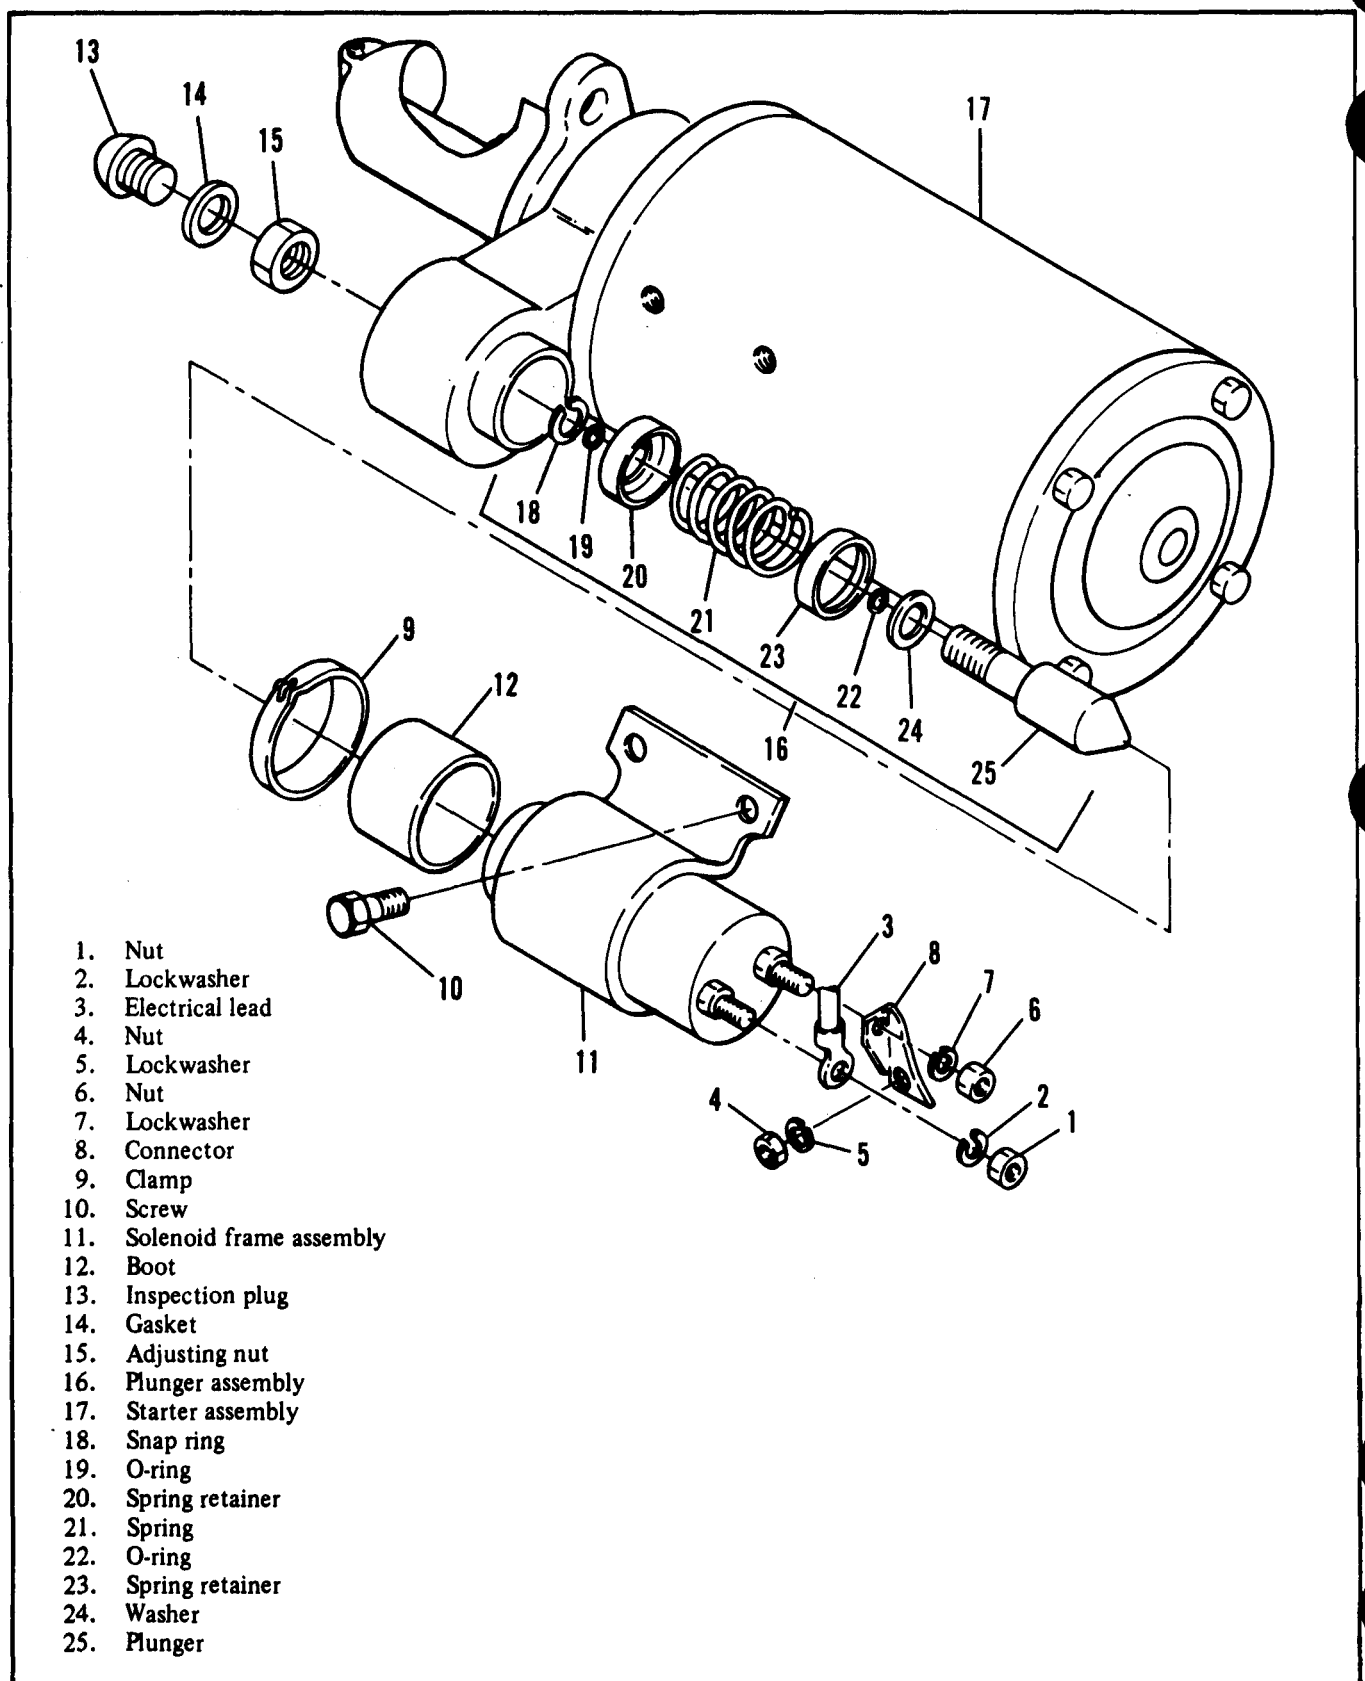

Figure 3-12A. Starter Solenoid Replacement (Effective with serial no. RZ70001)
- (a) Remove nut (1, figure 3-12A) and lockwasher (2) to disconnect electrical lead (3).
- (b) Remove nut (4), lockwasher (5), nut (6), lockwasher (7) and connector (8).
- (c) Loosen clamp (9) and remove screws (10) to remove solenoid assembly (11). Remove boot (12).
- (d) Remove inspection plug (13) and gasket (14).
- (e) Remove adjusting nut (15) and remove plunger assembly (16) from starter assembly (17).
- (f) Remove snap ring (18), o-ring (19), spring retainer (20), spring (21), o-ring (22), spring retainer (23), and washer (24) from plunger (25).
Maintain proper polarity when connecting multimeter. Electrical lead (3, Figure 3-12A) is positive lead.